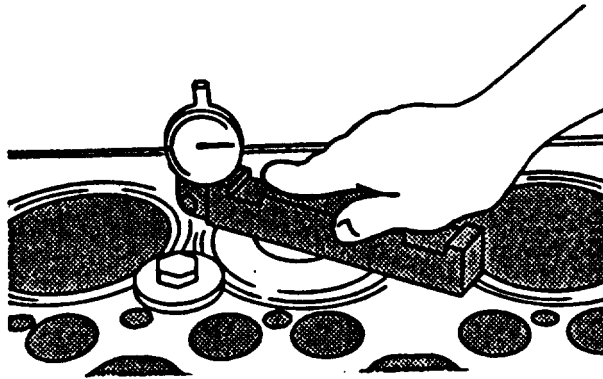

FIGURE 3-103. Measuring Cylinder Liner Height
- (1) Bolt down liners using capscrews and flatwashers. Flatwashers should be at least 1/8 inch (3.18 mm) thick. Tighten capscrews to 50 ft-lbs (68 Nm), refer to FIGURE 3-103.
- (2) Using gage (JDG451) and dial indicator, measure liner height.